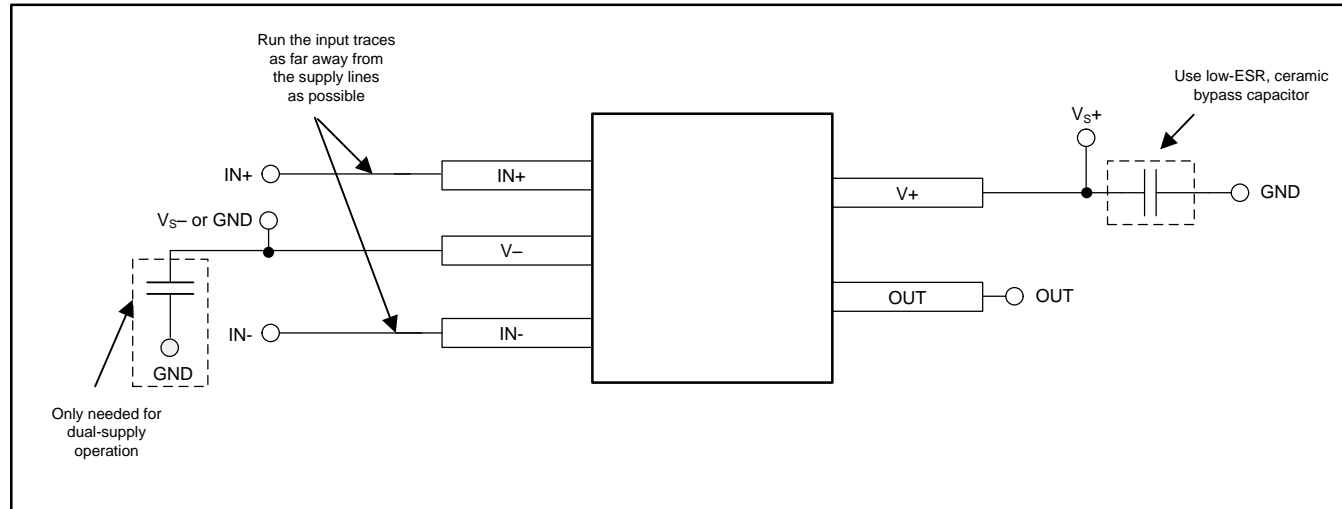

Figure 22. Comparator Board Layout
- To minimize supply noise, place a decoupling capacitor (0.1- μF ceramic, surface-mount capacitor) as close as possible to V_S as shown in Figure 22.